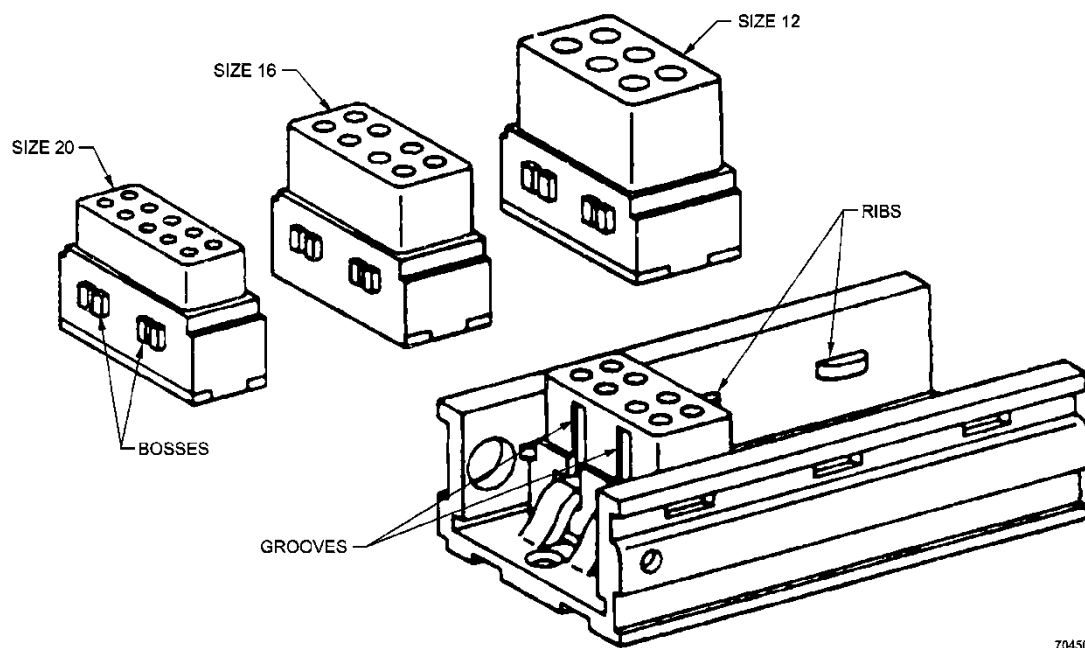

Figure 4-34 Feedback Terminal Junction Assembly Series I
- (1) Feedback type - all connections made to one side of module. (See Figure 4-33 and Figure 4-34.)
95. Installation and removal of Series I modules from the tracks is accomplished as follows (See Figure 4-33 , Figure 4-34 and Figure 4-37):